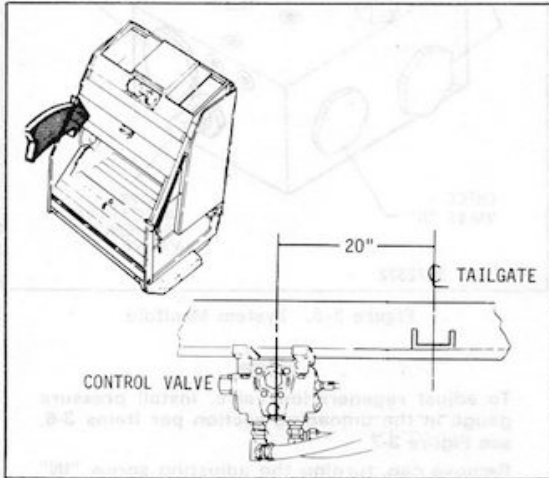

Figure 3-4. Control Valve Location
a. The single spool 4-way valve controls the packing mechanism thru a complete cycle. This valve also manually controls the inside packing cylinders. It is located 20" to the left of the tailgate centerline on the rear side of the main beam. (See figure 3-4).